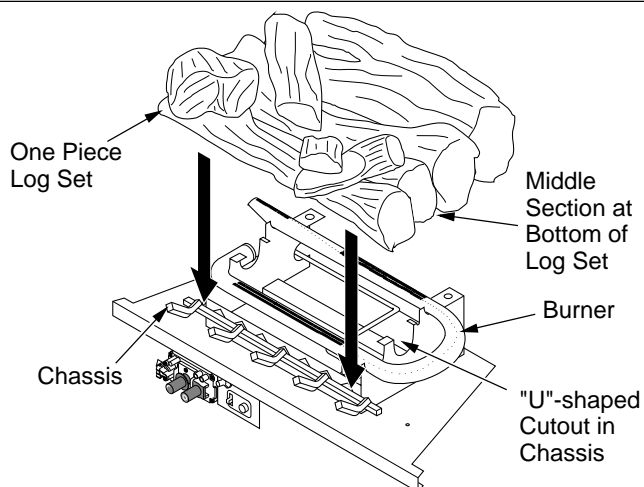
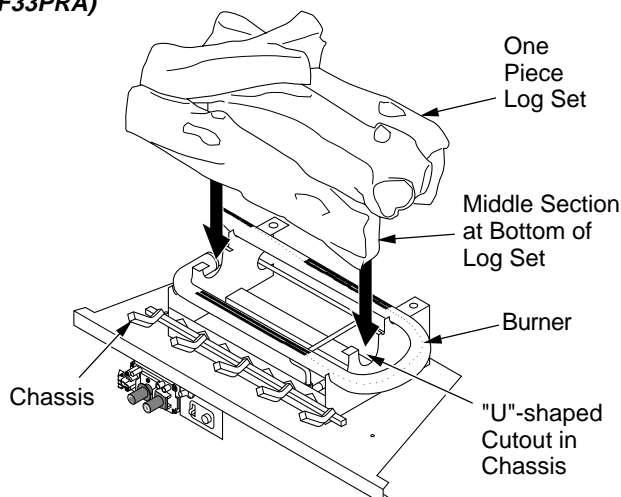
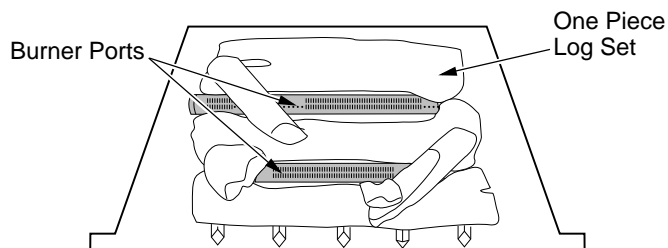

Figure 28 - Installing One Piece Log Set (Models VYGF33NRA & VYGF33PRA)
Figure 29 - Installing One Piece Log Set (Models FPVF33NR & FPVF33PR)
Figure 30 - Installing One Piece Log Set (Top View Models VYGF33NRA & VYGF33PRA)
1. For models VYGF33PRA and VYGF33NRA, place one-piece log set on grate to fit as illustrated in Figure 28. For models FPVF33PR and FPVF33NR, place one-piece log set on grate to fit as illustrated in Figure 29. Make sure middle section at bottom of log set is seated into "U"-shaped cutout in center of chassis (see Figure 29). **IMPORTANT:** Make sure log does not cover any burner ports (see Figures 30 and 31).